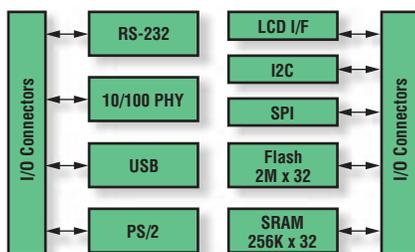

Figure 4 - P160 communications module block diagram
- The P160 communication module (Figure 4) provides interfaces for 10/100 Ethernet, RS-232, USB, PS/2 keyboard, LCD module, I²C, and SPI connections. The communication module also includes 2M x 32 flash and 256K x 32 SRAM for off-chip memory expansion by way of the IBM CoreConnect™ on-chip peripheral bus architecture.